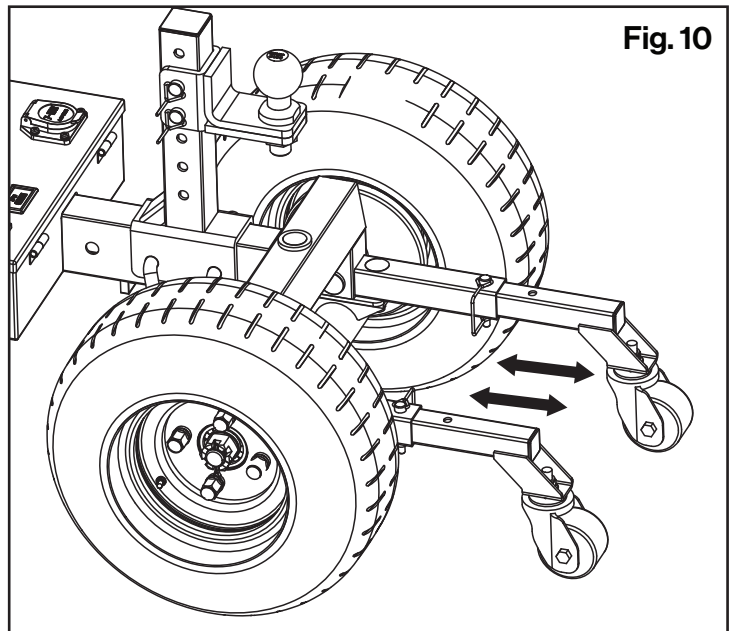

Fig.10
3. The rear support wheel assembly is intended to provide support and increased stability during towing, and according to the road conditions, can position can be adjusted up and down as well as forward and backwards relative to the main wheels. DO NOT operate trailer dolly without the support wheel assembly properly attached and secured in place. i. **(Fig.10)**